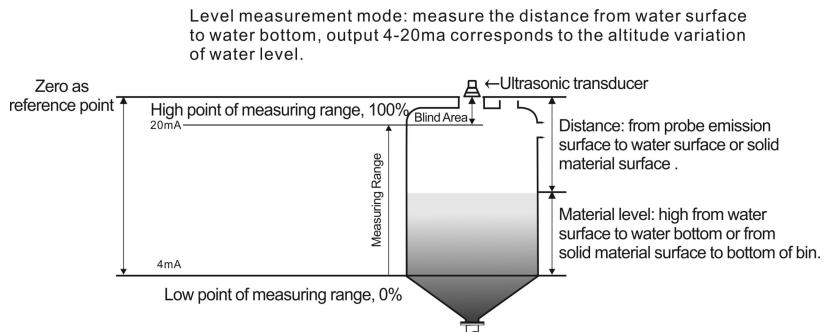

Fig. 1.2 Diagram of material measurement level
- ② Under material level measuring mode, the positions of reference zero point, maximum of measuring range and minimum of measuring range are as shown in Fig. 1.2.